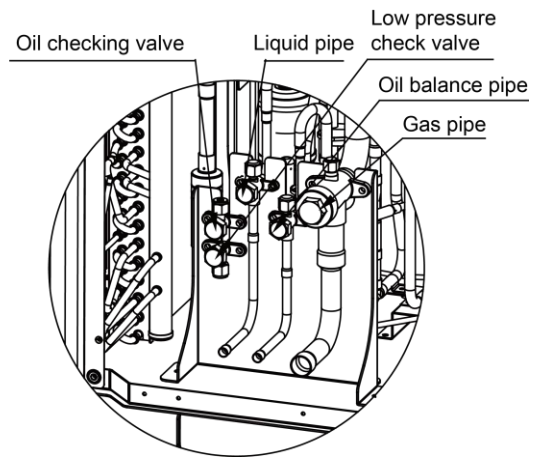

Fig.37
- (2) When there are more than 2 outdoor units, air purging from the nozzle located on the oil balance valve. Confirm outdoor oil balance valves are closed. See Fig.37.